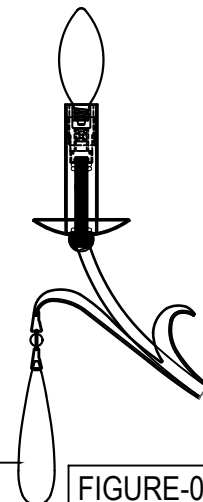

FIGURE-03
8. Safely install glass on tip of leaves & bottom metal ball . (See Figure-03)